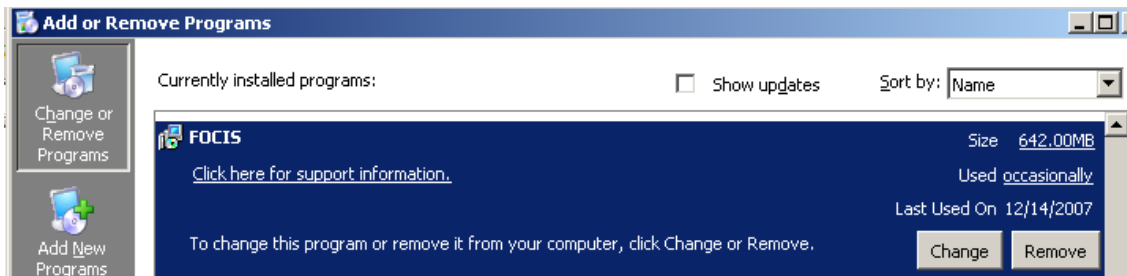

Figure II-26. Remove FOCIS
a) Uninstall the FOCIS application (Figure II-26).